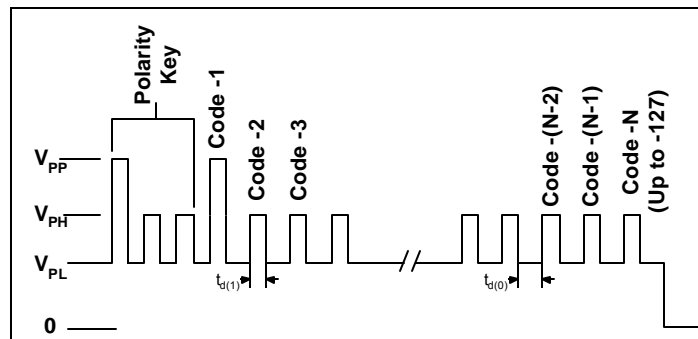

Figure 3 – Addressing Pulses: Negative Polarity
**Addressing with negative polarity.** The magnetic operate point ( $B_{OP}$ ) is adjustable with negative polarity using 7 bits or 128 addresses. To invert the polarity it is necessary to first apply a keying sequence (Figure 3). The polarity key contains a  $V_{PP}$  pulse and at least 1  $V_{PH}$  pulse, but no more than 6  $V_{PH}$  pulses; the key in Figure 3 shows 2  $V_{PH}$  pulses. The addresses are then sequentially selected until the required operate point is reached. The first address must be selected with a High voltage pulse ( $V_{PP}$ ), while the remaining pulses should be  $V_{PH}$  Pulses.